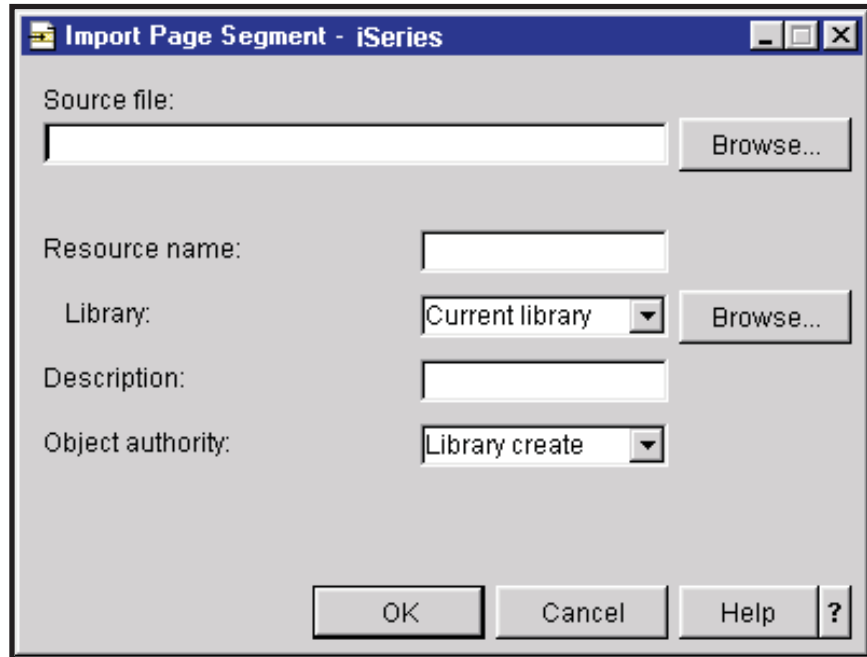

Figure 124. Import Page Segment Window
5. Right-click the type of resource you want to store on the i5/OS, and select **Import**. A window like the one shown in Figure 124 on page 235 opens, depending on the type of resource you selected.